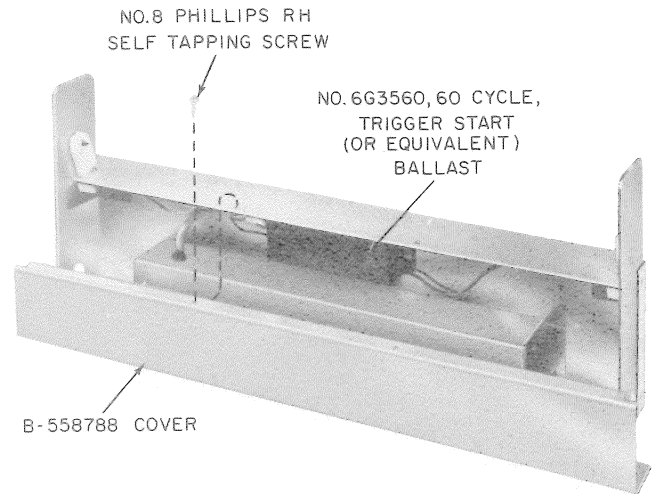

Fig. 15—KS-19322, List 1 Sign—Bottom View with Cover Removed
- (b) Remove the bottom cover (Fig. 15) to make wiring area accessible.
- (f) Install bottom cover (Fig. 15), lamp, sign panel, end caps, and top cover.